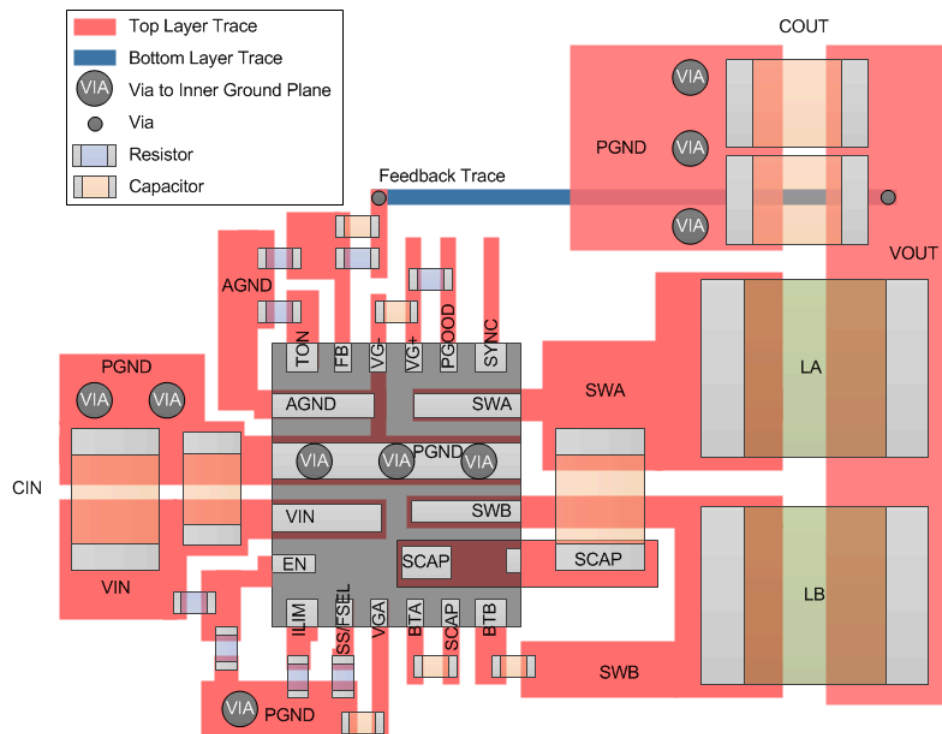
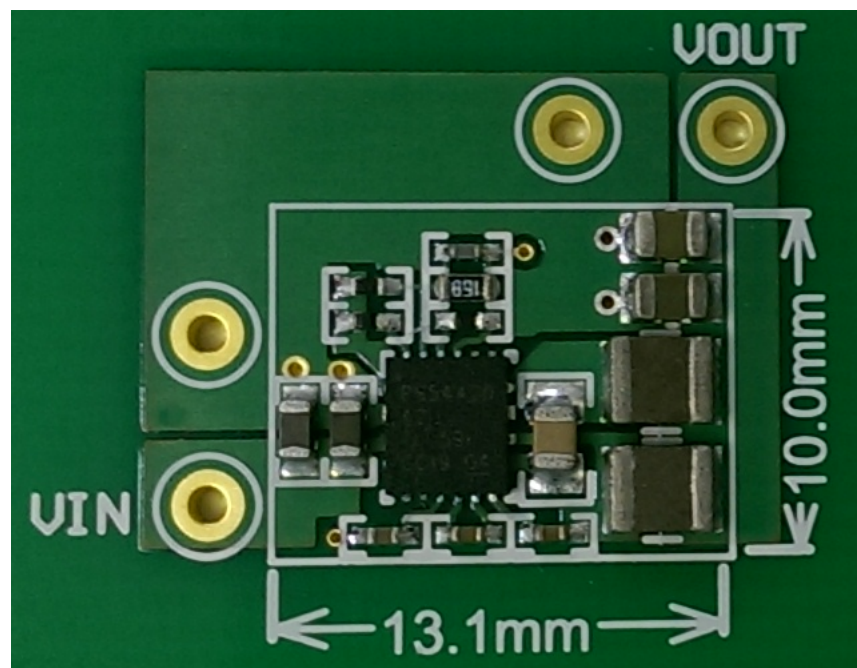

Figure 62. Layout Recommendation
Figure 63. Example Converter Layout
- Layout is a critical portion of good power supply design. See Figure 62 and Figure 63 for a PCB layout example. It may be possible to obtain acceptable performance with alternate PCB layouts, however this layout has been shown to produce good results and is meant as a guideline.
- The FB pin is sensitive to noise. The feedback resistors should be located as close as possible to the IC and routed with minimal lengths of trace. Place the feedback resistor network near the device to minimize the FB trace distance. When operating at 7 MHz or 10 MHz, a resistor (e.g. 10 kΩ) is required in series with the FB pin to reduce noise coupling and filter out high frequency noise as shown in Figure 62.
- The no connect (NC) pin should be connected to the trace connecting the SCAP pin to the series capacitor. This will improve board level reliability.